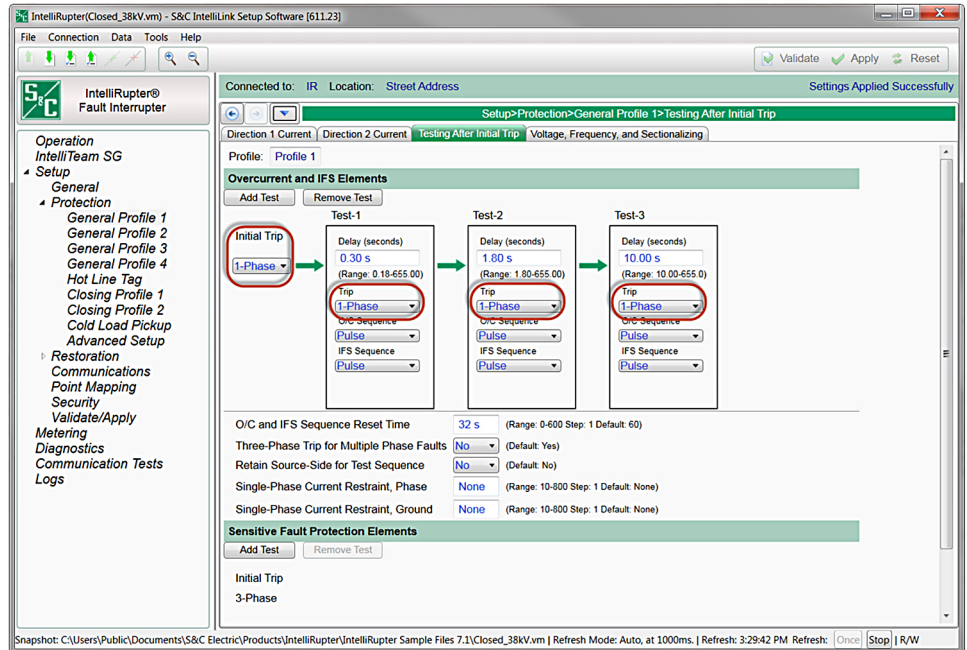

Figure 4. The Setup>Protection>General Profiles screen.
- STEP 5.** Open the IntelliLink® Remote Setup Software, connect to each IntelliRupter fault interrupter (one at a time), and verify they are configured for a **Single-Phase Trip and Lockout** operation by going to the *Setup>Protection>General Profiles* screen(s) and reviewing all the profiles that will be activated and used. See Figure 4 on page 3.